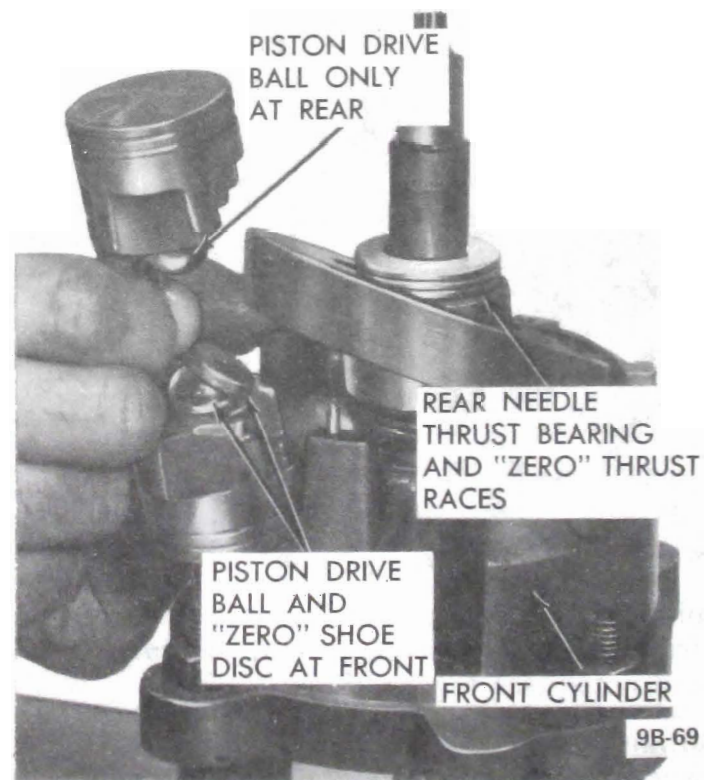

Figure 9B-78 Installing Piston into Cylinder Half
7. Rotate shaft and axial plate assembly until high point of axial plate is over No. "1" cylinder bore. Position No. "1" piston onto axial plate (see Figure 9B-77) and lower the piston and axial plate so the front end (notched end - see Figure 9B-78) of the piston enters the cylinder bore.